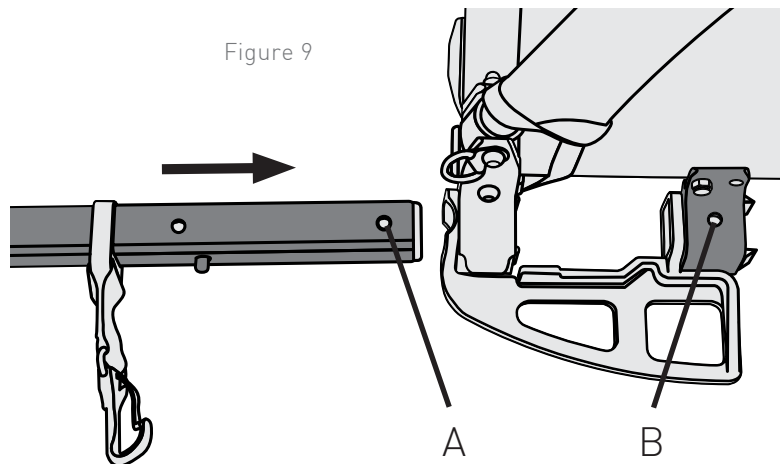

Figure 9
1. Slide the tow bar into the tow bar receivers until hole A is aligned with hole B (Figure 9). The red safety collar must be flush with the front of the tow bar receiver, which indicates that the tow bar has been fully inserted.